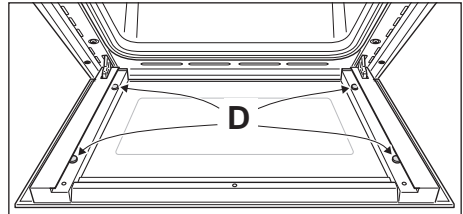

Fig. 9.15a
**IMPORTANT:** It is advisable, while removing the glass, to keep pressed in position the four rubber pads "D" (fig. 9.15a), by a finger, to avoid breakage or slippage of the rubber pads themselves.
- Check that the four rubber pads are in place ("D" in fig. 9.15a).